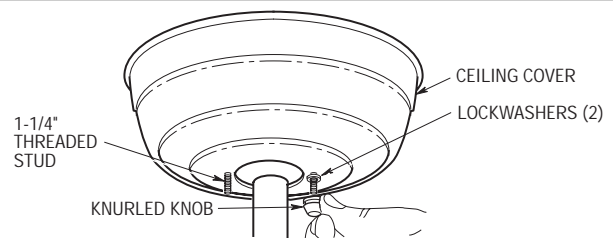

Figure 11B
- 17. Lift the ceiling cover up to the threaded studs and turn until studs protrude through the holes in the ceiling cover (Figure 11B).
- 18. Secure the ceiling cover in place by installing two lockwashers and two knurled knobs (supplied) (Figure 11B). Tighten the knurled knobs securely until the ceiling cover fits snugly against the ceiling and the hole in the ceiling cover is clear of the downrod.